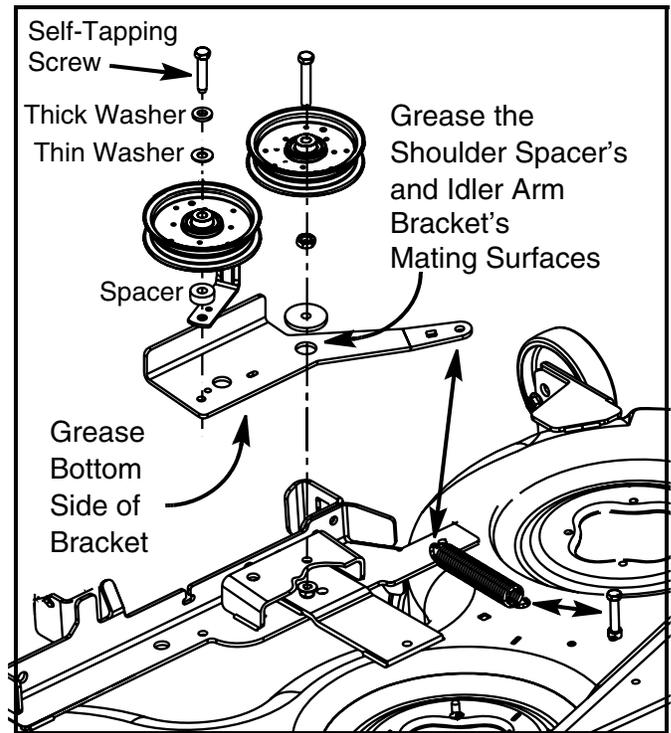

FIGURE 3
13. Install the new idler arm bracket and stationary idler pulley onto the deck using the hardware removed in Step 11. See Figure 3.
15. Refer to Figure 3. Using the parts removed in step 9, place the spacer, 750-3119, between the new belt guard and the pivoting idler pulley, 756-04129B.
17. Re-install the extension spring. See Figure 3.